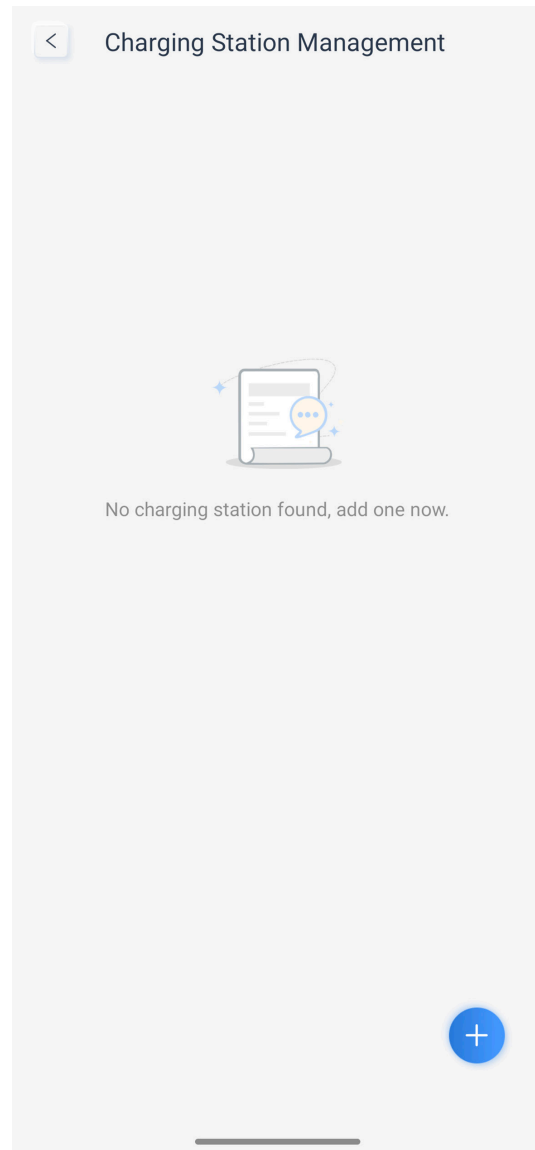

Fig.6.2.3
3. Select the Ethernet Setting. (See Figure 6.2.3)